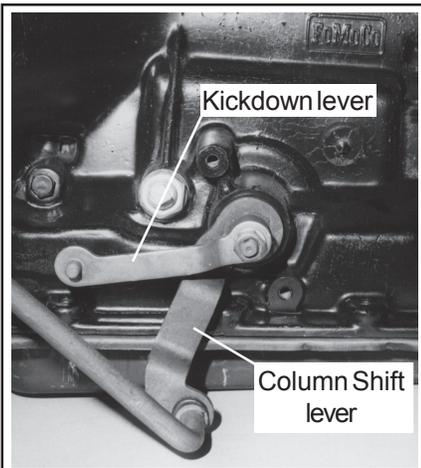

Figure 1
STEP 3. Disconnect vacuum line to vacuum modulator. Disconnect kickdown linkage. (See Figs. 1&2) Remove clip holding rod or cable to kickdown lever and allow rod or cable to hang free. Disconnect shifter:
Column Shift Models: Disconnect rod or cable from shift lever on transmission. (See Fig. 1) The rod or cable is retained by a clip or by snapping into a plastic grommet. Remove clip or pry rod out of grommet and allow linkage to hang free. Cable models; unbolt cable bracket from bell housing and allow cable to hang free.
Column Shift Models: Connect rod or cable to shift lever on transmission. (See Fig. 1) Snap rod into grommet retainers by squeezing rod and lever together with a pair of pliers. Connect rod or cable to clip retainer levers and install clip.
STEP 25. Connect kickdown linkage. (See Fig. 1 & 2) Connect rod or cable kickdown lever and install clip. Kickdown linkage should work smoothly with a positive spring return action.